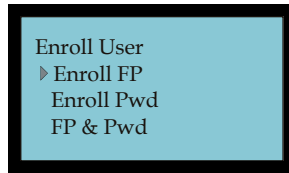

Figure 2-53 Enroll User Menu
3. Press **OK** to display the Enroll User menu and select Enroll FP (see **Figure 2-53**).